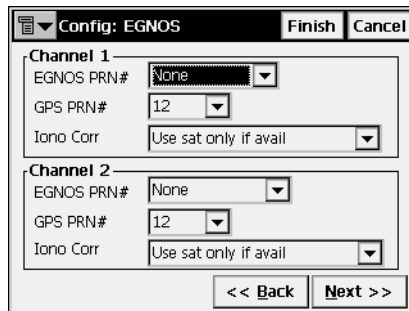

Figure 3-33. Config: EGNOS
- For EGNOS (European Geostationary Navigation Overlay Service), set the corresponding parameters (Figure 3-33), which are identical to the WAAS parameters.